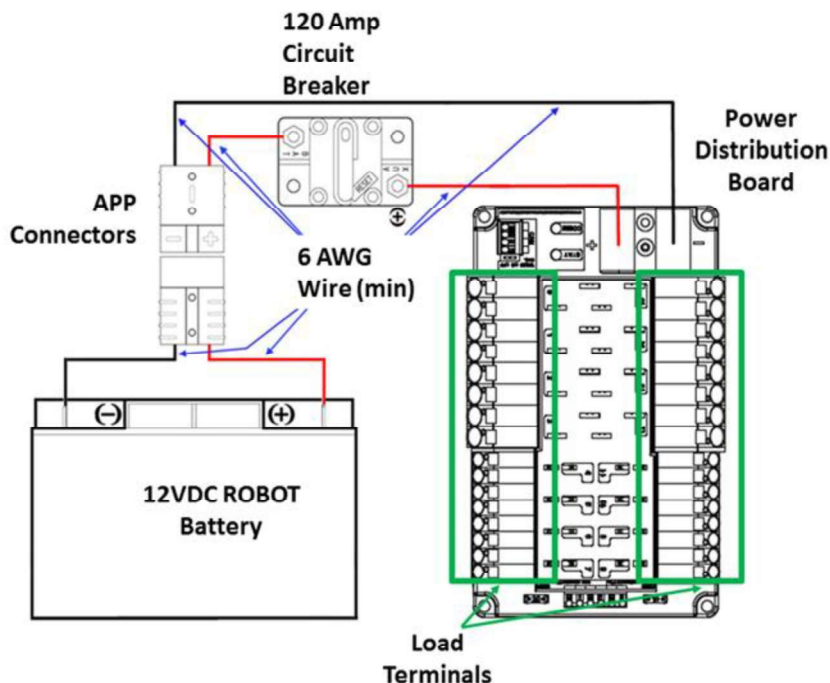

Figure 9-9 Electrical connection diagram
R40. The one (1) ROBOT battery, a single pair of Anderson Power Products (or APP) 2-pole SB type connectors, the one (1) main 120-amp (120A) surface mount circuit breaker (Cooper Bussman P/N: CB185-120, CB185F-120, CB285-120), and the one (1) CTR Electronics Power Distribution Panel (PDP, P/N: am-2856, 217-4244, 14-806880) shall be connected with 6 AWG (7 SWG or 16 mm²) copper wire or larger, with no additional devices or modifications, as shown in Figure 9-9.
- R41.** All circuits, with the exceptions of those listed in R46 and R48, must connect to, and have power sourced solely by, a single protected 12VDC WAGO connector pair (i.e. the Load Terminals, as shown in Figure 9-9) of the one (1) CTR Electronics Power Distribution Panel, not the M6 cap screws.